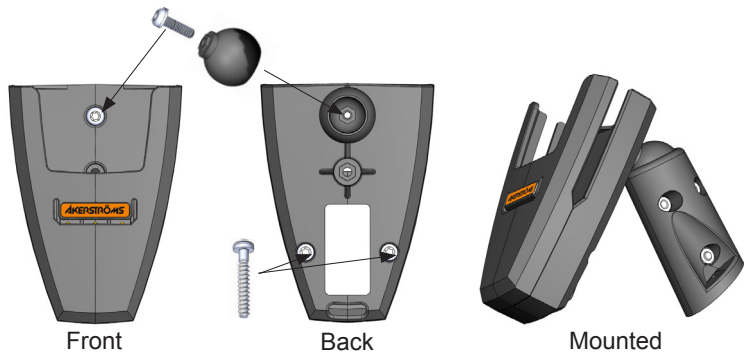

Figure 12. Mounting holder
For holder ③ the screws on the back have to be screwed (see fig. 12).
For all holders the ball has to be attached with a screw on the front and a nut on the back (see fig. 12). Tighten the screw with a 3mm Allen key.